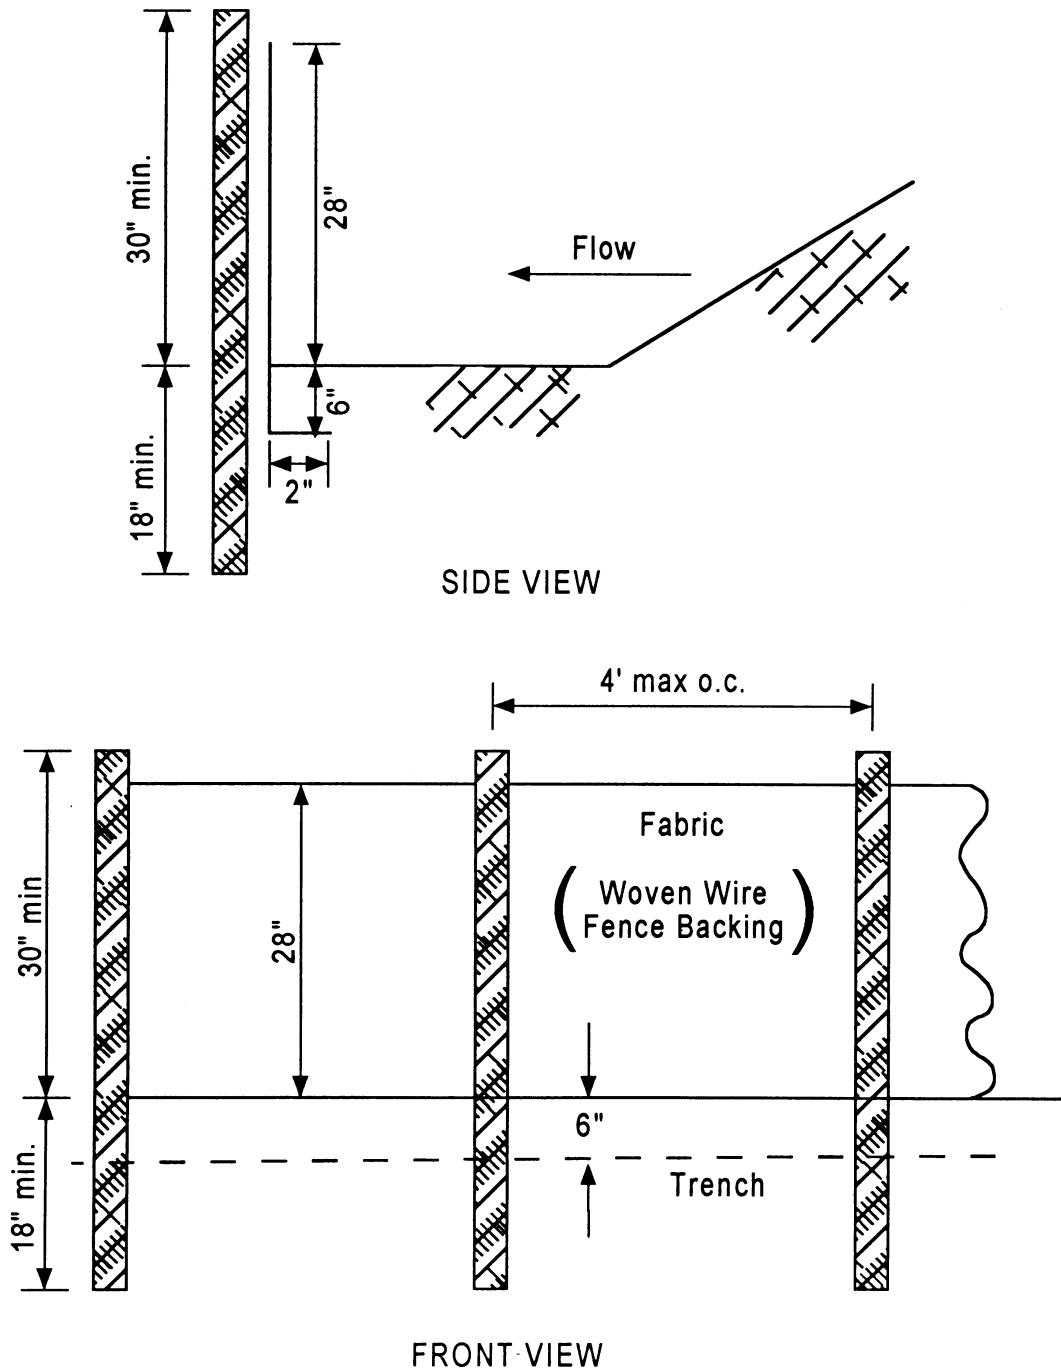

Figure 3
**Type C Silt Fence - SF-C:** Type C fence is 36-inches wide with wire reinforcement. The wire reinforcement is necessary because this fabric allows almost three times the flow rate as Type A silt fence. Type C silt fence should be used where runoff flows or velocities are particularly high or where slopes exceed a vertical height of 10 feet. See Figure 3.